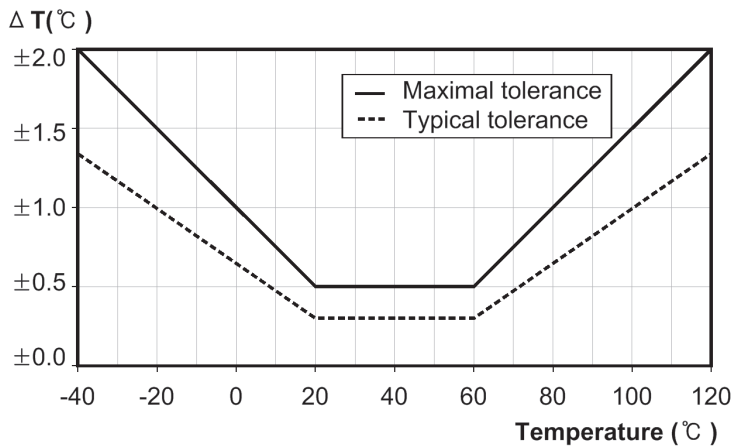

Figure 4: Typical and maximal tolerance for temperature
**Table 5:** Timing specifications of digital input/output pads for I2C fast mode. Entities are displayed in Figure 4. VCC = 5 V, T = 25 °C, unless otherwise noted.
When EEH110 is used at I2C interface mode, the SDA pin is used to transfer data in and out of the sensor. For sending a command to the sensor, SDA is valid on the rising edge of SCL and must remain stable while SCL is high. After the falling edge of SCL the SDA value may be changed. For safe communication SDA shall be valid tSU and tHD before the rising and after the falling edge of SCL, respectively – see Figure 4. For reading data from the sensor, SDA is valid tVD after SCL has gone low and remains valid until the next falling edge of SCL.